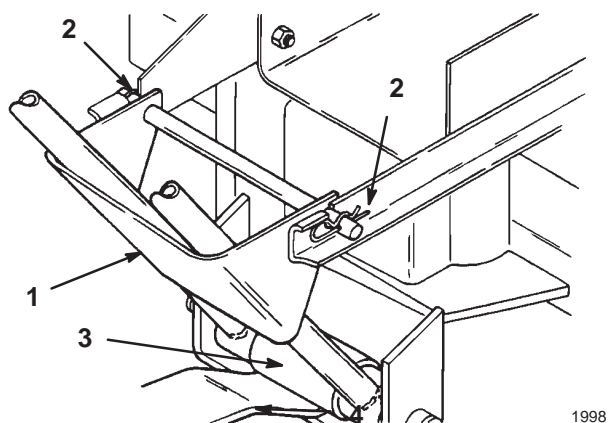

Figure 29
4. Remove 2 hairpin cotters from the holes in the rod of the quick-attach bracket (Fig. 29).
5. Remove the quick-attach bracket from the notches in the support brackets on the tractor frame and the drawbar hitch (Fig. 29).